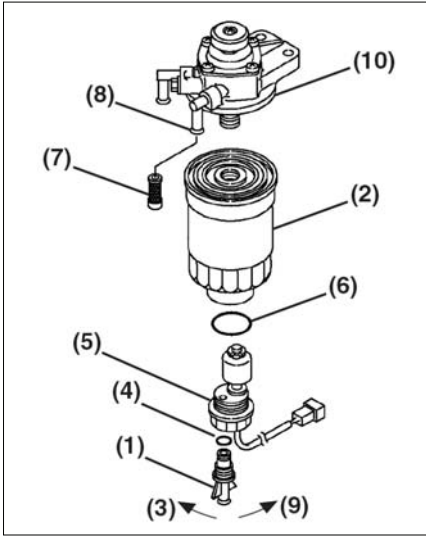

Figure 5-15
5. Carefully open the drain plug (**Figure 5-15, (1)**) to drain fuel from the fuel filter.
7. Remove the drain plug (**Figure 5-15, (2)**) by turning it to the left (**Figure 5-15, (3)**).
8. Check the condition of the drain plug O-ring (**Figure 5-15, (4)**). Replace the O-ring if damaged.
10. Remove the fuel filter sensor assembly (Figure 5-15, (5)) by turning it to the left (Figure 5-15, (3)).
11. Carefully remove the in-line fuel filter (Figure 5-15, (7)) from the output nipple (Figure 5-15, (8)) that goes to the fuel injection pump.
13. Carefully install the new in-line fuel filter (Figure 5-15, (7)) into the output nipple (Figure 5-15, (8)).
14. Carefully install the fuel filter sensor assembly (Figure 5-15, (5)) in the new fuel filter using the new O-ring supplied with the fuel filter (Figure 5-15, (2)) by turning the fuel filter sensor assembly to the right (Figure 5-15, (9)).
15. Install the drain plug (Figure 5-15, (1)) on the new fuel filter (Figure 5-15, (3)) by turning the drain plug to the right (Figure 5-15, (8)). Hand tighten only.
16. Clean the fuel filter mounting surface (Figure 5-15, (10)) and apply a small amount of diesel fuel to the gasket of the new filter.